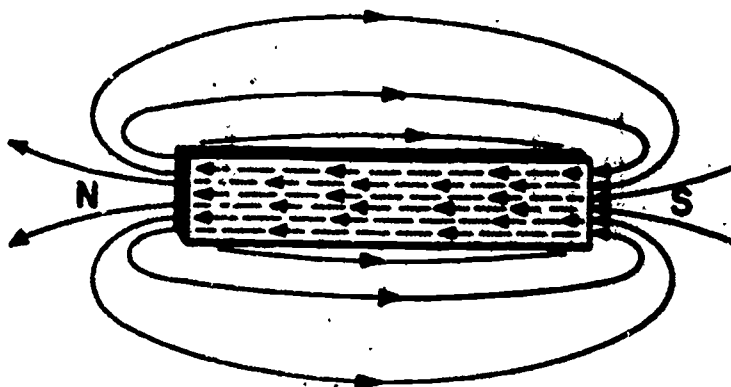

Figure 6.
In frame 5, we saw the magnetic field pattern around a magnet. A simple and more commonly used method is that of arbitrarily representing the forces in a magnetic field by drawing a few lines called lines of force. See figure 6 below. Note one thing in particular that is revealed by figure 6; the concentration of magnetic field within the metallic bar is very great, while the concentration of the external field decreases very rapidly with distance from the poles. Observe also that arrowheads have been placed on each of the lines of force of the external field. The direction of the arrowheads is away from the north pole and toward the south pole of the magnet. In other words the arrowheads indicate that the lines of force leave the magnet at the north pole and enter the magnet at the south pole. Within the substance of the magnet the direction of the force is assumed to be from the south pole to the north pole so that a continuous loop is formed by each line of force. The direction of magnetic lines of force is defined as the direction in which the north pole of a compass needle will point if placed at any point along a line of force.
There are several basic laws concerning magnetic fields. We have already discussed that (1) lines of force travel from north pole to south pole outside the magnet (south to north inside the magnet); (2) lines of force form continuous loops; and (3) lines of force are elastic and act as if under tension. In figure 6, we observed that the lines of force never crossed one another. Magnetic fields (lines of force) have no known insulator. There is no known substance in the world through which a magnetic field cannot pass.